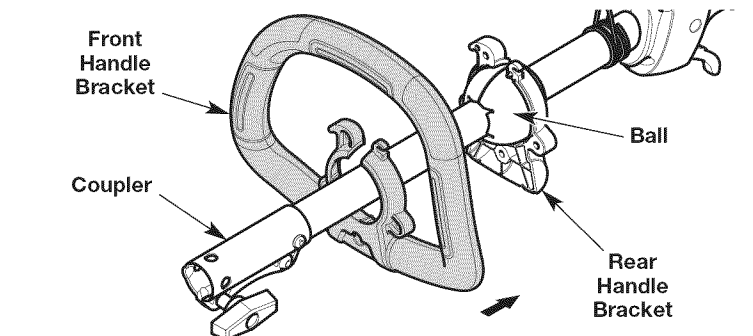

Fig. 4
3. Push the rear handle bracket onto the back of the ball and hold it in place (Fig. 4).
4. Carefully maneuver the front handle bracket over the coupler and push it onto the front of the ball (Fig. 4). Hold the front and rear handle brackets together.